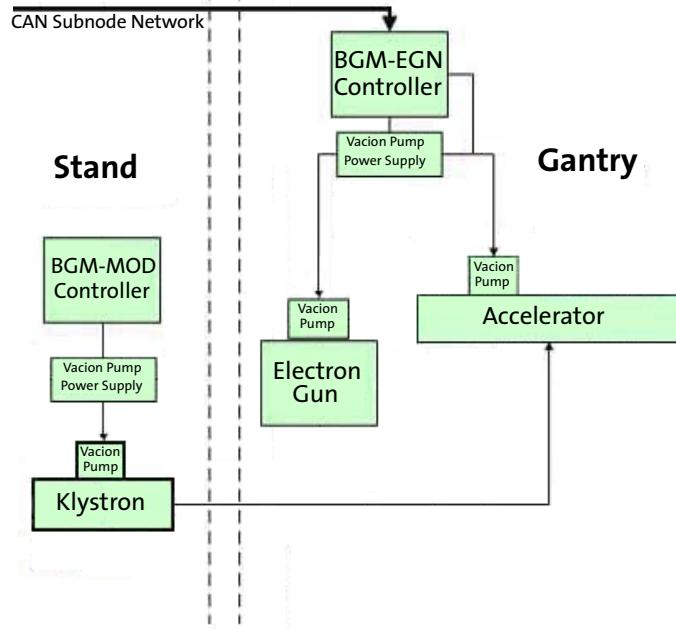

Figure 53 Vacuum System Pump and Power Supplies
The power supply for the vacuum system is the vacion subsystem (BGM-VAC) in the BGM (see Figure 53):
- Power to the accelerator and electron gun is supplied by the BGM-VAC subnode, which is directly connected to the BGM-EGN subnode located in the gantry. BGM-EGN controls and monitors the vacion power supplies for the accelerator and electron gun. (See Figure 53):
- System, during which +24 volts (24V) system power is supplied. Control and monitoring are provided either by the BGM-VAC, or by the BGM-EGN and BGM-MOD subnodes (see Figure 53).